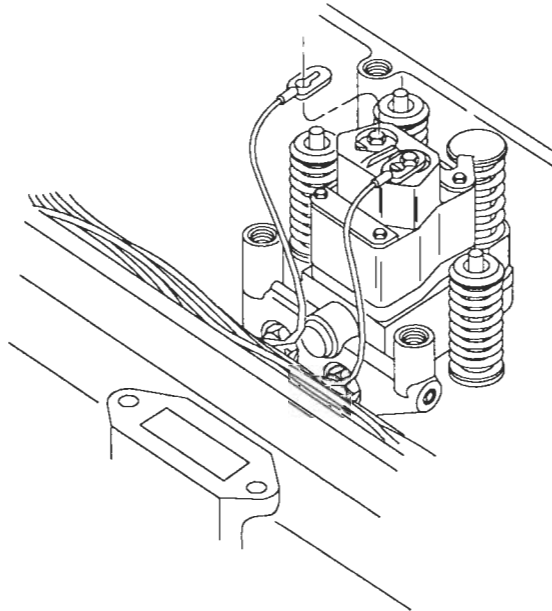

Figure 7. EUI Terminal Installation
6. Install the EUI terminal wires by positioning the keyhole in the terminal over the screw in the injector solenoid housing. Pull the terminal end down so that the screw rests in the smaller slot in the terminal. Tighten the screws to 12–17 lb-in. Do not bend the terminals down after installation (Figure 7.)